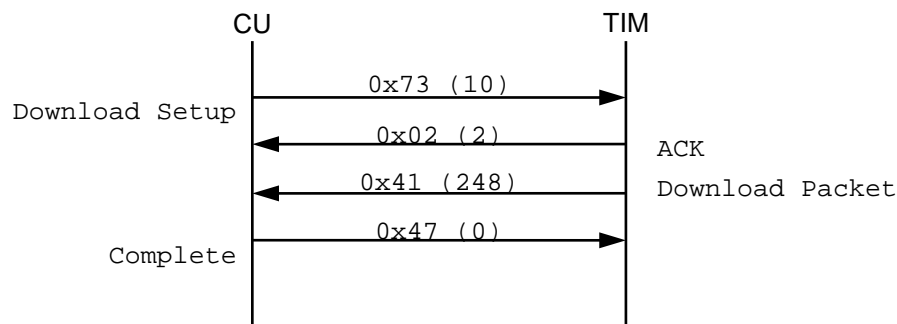

Figure 1 - Download command sequence
Information in non-volatile memory may contain some information that is useful in system development. Table 18 shows the data available in non-volatile storage. A sequence of commands is required to download this information, and the information will need to be parsed according to the table. Figure 1 shows the command sequence between the connected unit (CU) and the thermal imaging module (TIM).
A download from the TIM is initiated by the CU with the “Data Transfer Download Setup” message (0x73). This message has five, 16-bit parameters (10 bytes total). The parameters identify the device; region, range, and size of the download (see Figure 1)